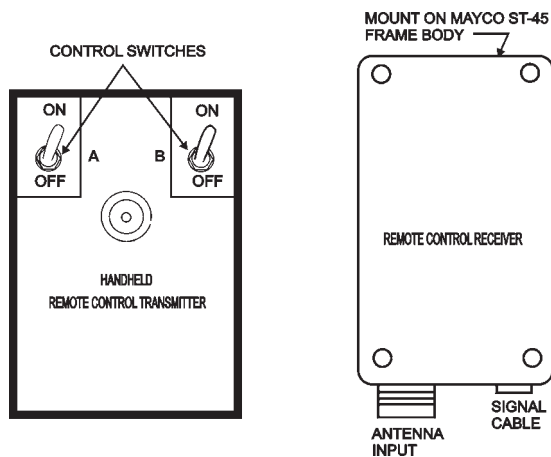

**Figure 33. Hopper Remixer Blades (Rotation)**
- C. Push the Hopper Remixer Control lever “**DOWNWARD**” (Figure 31) and observe that the blades (Figure 33) inside the hopper are turning in a clockwise direction (forward).
- D. Push the Hopper Remixer Control lever “**UPWARD**” (Figure 32) and observe that the blades (Figure 33) inside the hopper are turning in a counter-clockwise direction (reverse).